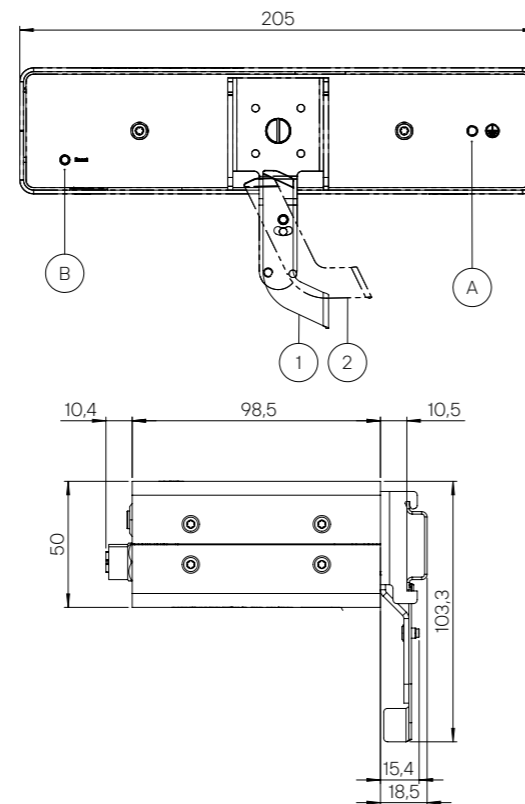

Figure 4
On the back of the device there is a connection for grounding (Fig. 4-A) and a button for resetting the device (Fig. 4-B).
**!** Both the camera head and the control unit have a connection for grounding (Fig. 2-H, Fig. 4-A respectively). Connect both to the grounding conductor using a grounding cable. Make absolutely sure that all devices are connected to the same protective earth conductor.